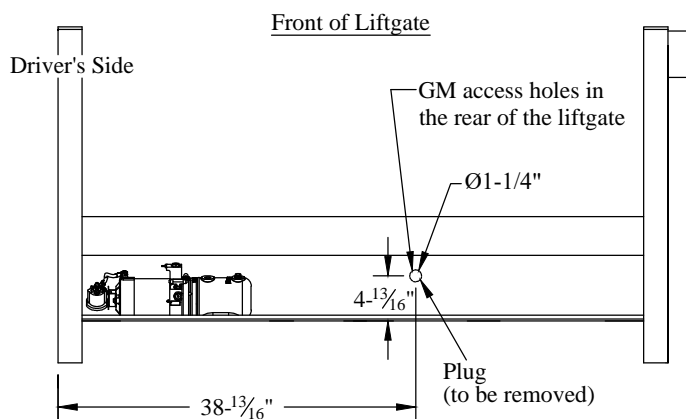

Figure 20: Spare tire access holes.
2. **Remove and Discard** the black plastic plugs from the mainframe in the location shown (Figure 20).